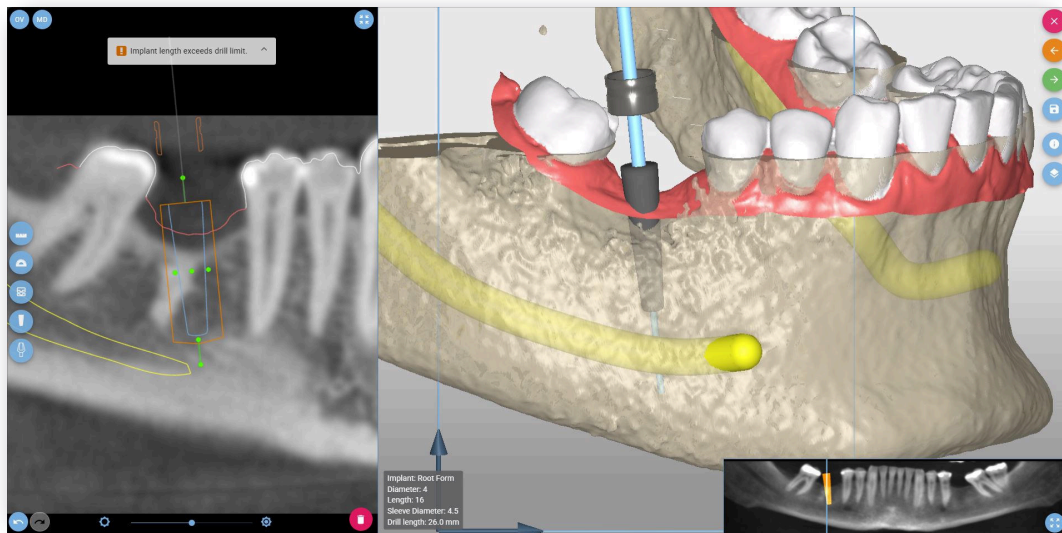

Figure 50: The Implant length exceeds drill limit.
- The Implant length exceeds drill limit (Figure 50).